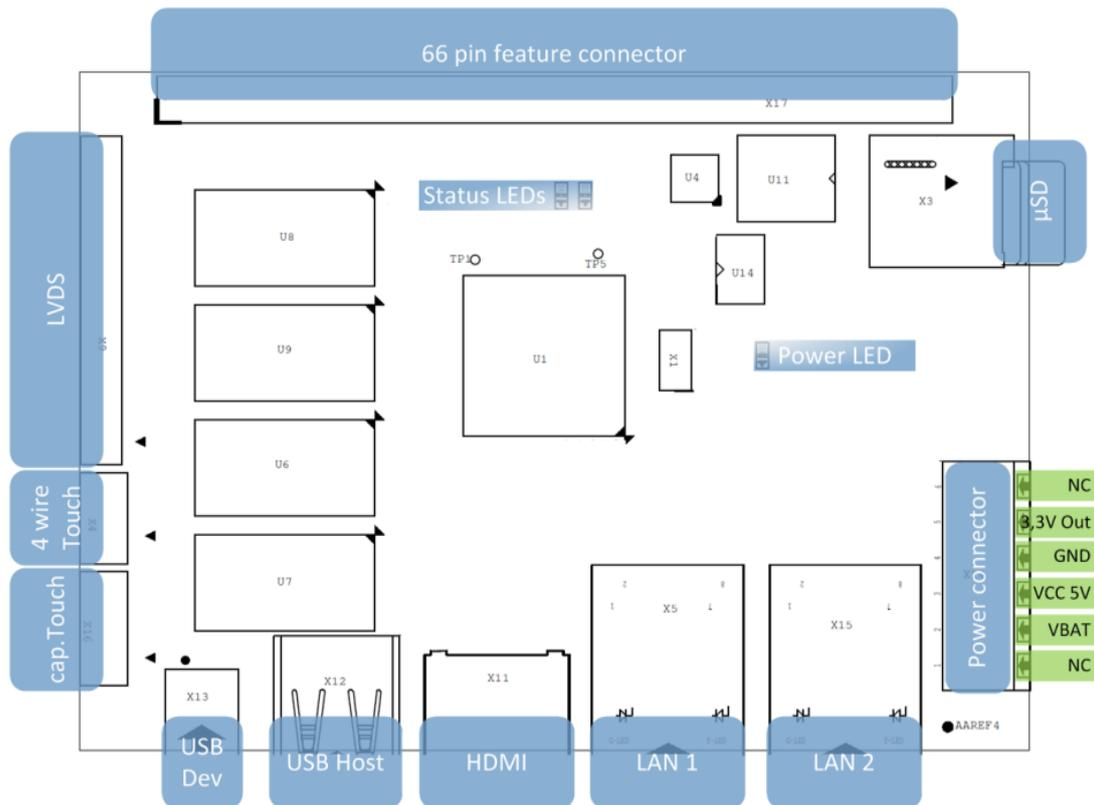

Figure 1: armStoneA8 pico-ITX interfaces (top side)
Before you power on armStoneA8, you should make a serial connection between armStoneA8 and your PC. Please use the cables shipped with the armStoneA8 Starterkit to connect your PC to the Debug-Port of the armStoneA8. The Debug-Port resides on the 66 pin feature connector. (see Figure 1). In hardware revision 1.10 the pins are located at a 5 pin single row connector which is mounted at pin 53, 55, 57 ,59 and 61. That allows attaching a standard 9pin to DSUB9 adapter cable for debug output of boot loader and kernel with TX and RX to a terminal. Using RTS and CTS too needs a special cable adapter.
- Make a cable between power connector of armStoneA8 (see Figure 1) and your power supply. Usually you need to connect ground and +5V (2A).